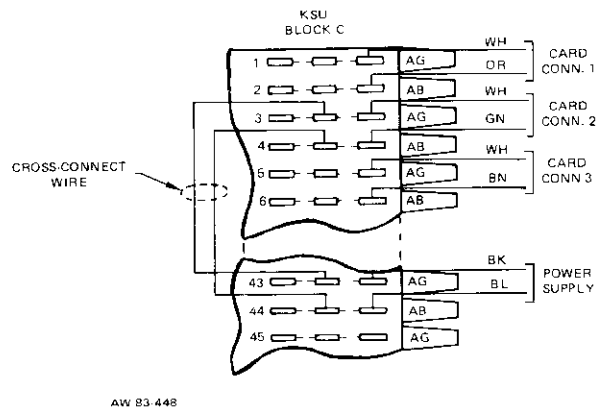

Figure 13: Connecting Details, A Battery and A Ground
- (a) On KSU connecting block C, connect terminal AB (C44) to the AB terminal (C2, C4, C6, C8, C10, or C12) associated with the card connector into which the 401B KTU was inserted. Connect terminal AG (C43) to the corresponding AG terminal (C1, C3, C5, C7, C9, or C11). An example of these cross-connections is shown in Figure 13. The example shows A Battery and A Ground wired to card position 2.
- (a) On KSU connecting block C, connect terminal AB (C44) to the AB terminal (C2, C4, C6, C8, C10, or C12) associated with the card connector into which the 401B KTU was inserted. Connect terminal AG (C43) to the corresponding AG terminal (C1, C3, C5, C7, C9, or C11). Refer to Figure 13 for an example of this cabling.
- (b) On KSU connecting block C, connect terminal AB (C44) to the AB terminal (C2, C4, C6, C8, C10, or C12) associated with the card connector into which the 346A KTU was inserted. Connect terminal AG (C43) to the corresponding AG terminal (C1, C3, C5, C7, C9, or C11). Refer to Figure 13 for an example of this cabling.